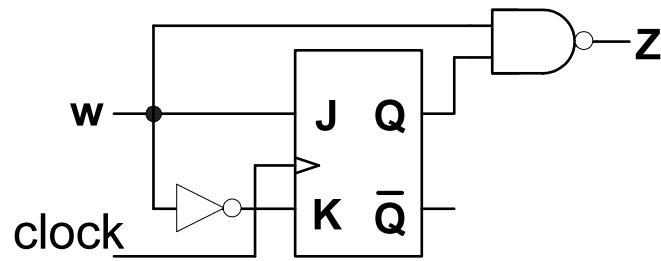

Figure 15 - Circuit for question 20.
20. Consider the sequential circuit shown in Figure 15. Consider the following state assignment: **A** stands for $Q=0$, **B** stands for $Q=1$. The state transition diagram for the circuit from Figure 15 is shown in: